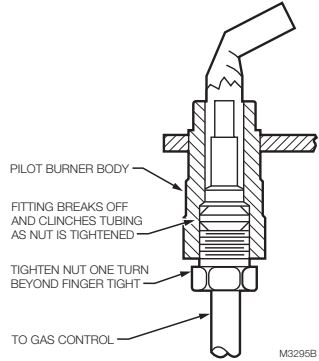

Fig. 3. Always use new compression fitting.
NOTE: When replacing a pilot burner or orifice, cut off old compression fitting and replace with new compression fitting provided with new pilot burner. Never use old compression fitting as it may not provide a gas-tight seal. See Fig. 3.
**NOTE:** When replacing an orifice, cut off old compression fitting and replace with a new compression fitting. Never use old compression fitting as it may not provide a gastight seal. See Fig. 3.